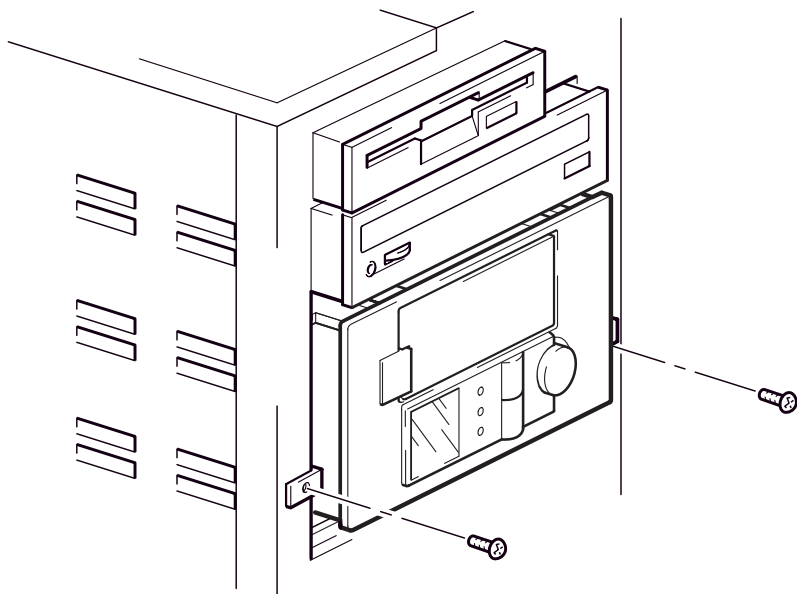

Figure 10a: securing autoloader to mounting hardware
- 1 Secure the autoloader into place. Use the screws you removed in “Step 4: Prepare the mounting bay” on page 17 to fix the autoloader in place, as shown in figure 10a.